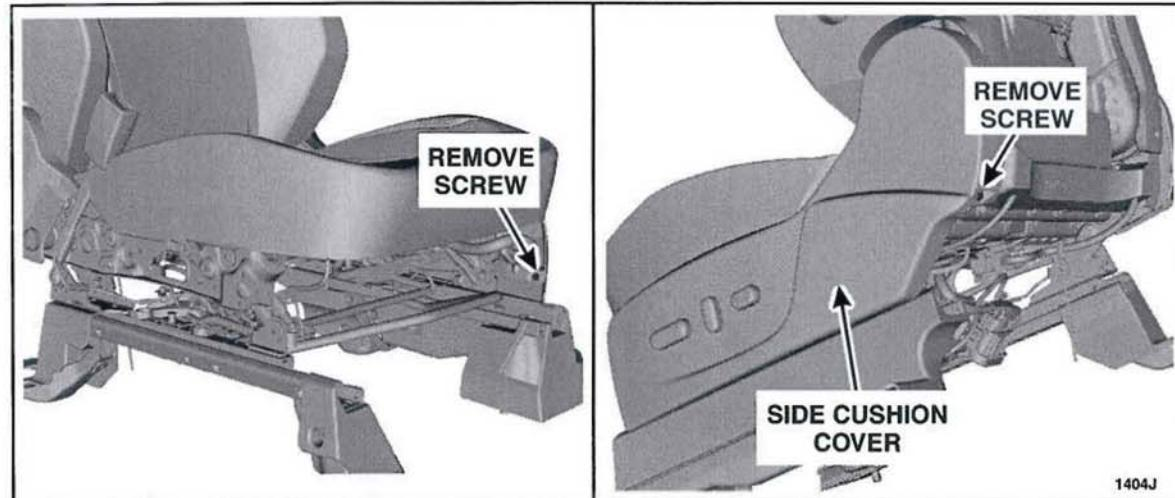

FIGURE 10
- a. Remove the two side cushion cover screws. See Figure 10.